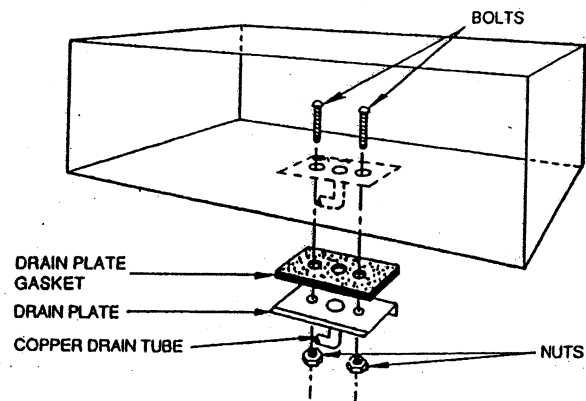

Fig. 7 — Mounting Drain Assembly
3. Secure with nuts. See Fig. 7.